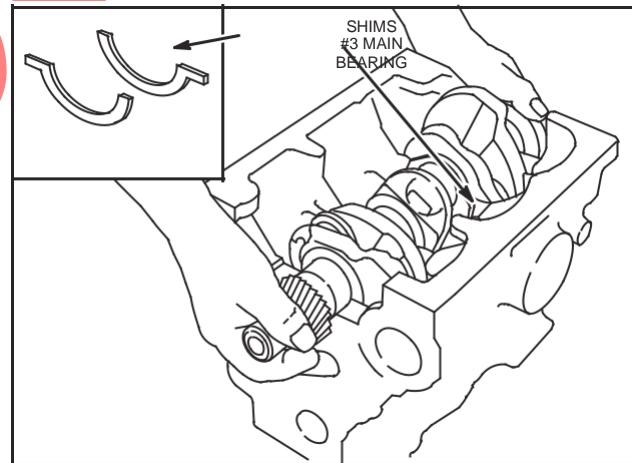

Fig. 7 – Removing Crankshaft
10. Remove crankshaft, Fig. 7.